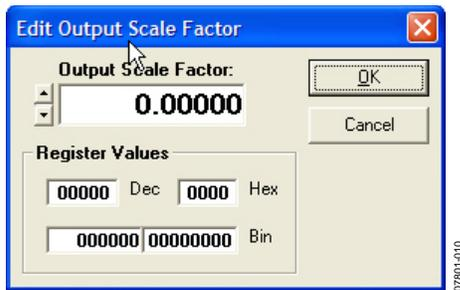

Figure 10. Edit Output Scale Factor Pop-Up Window
**Edit Output Scale Factor** window (see Figure 10) appears by double-clicking the **Output Scale Factor** data entry form. The **Edit Output Scale Factor** window allows you to set individual bits in the output scale factor tuning word. These can be entered in using dec, hex, or binary. This window also allows you to enter in a tuning word and see the correct dec, hex, or binary representations for this word. You can scroll the **Output Scale Factor** to view the different tuning words one bit at a time.